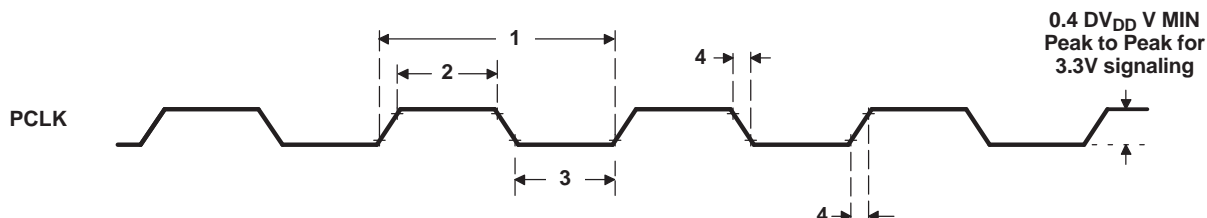

Figure 5-36. PCLK Timing
5.11.1 Timing Requirements for PCLK ⁽¹⁾ ⁽²⁾(see Figure 5-36)